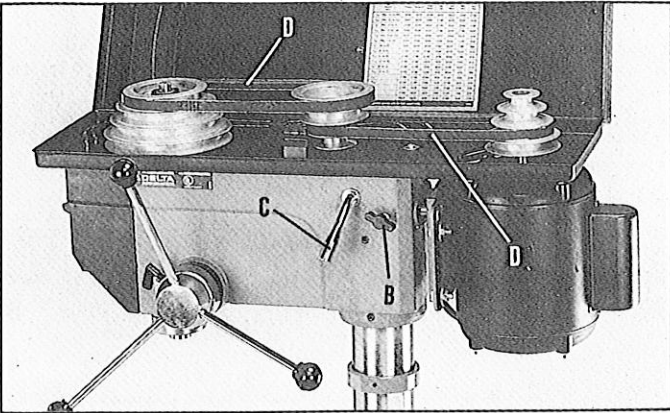

Fig 25
5. After the belt is positioned on the desired steps of the motor, center and spindle pulleys, move tension lever (C) Fig. 25, to the rear until the belts are properly tensioned and tighten tension lock knob (B). The belts should be just tight enough to prevent slipping. Excessive tension will reduce the life of the belt, pulleys and bearings. Correct tension is obtained when the belts (D) can be flexed about 1" out of line midway between the pulleys using light finger pressure.